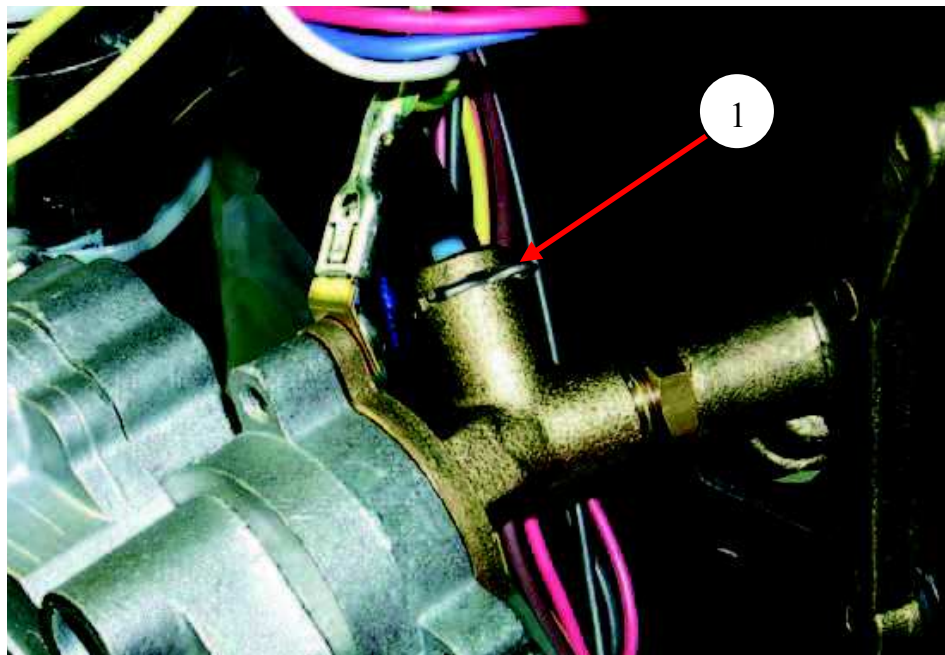

Fig. 34
- d) Remove instantaneous water heater feed line (see Fig. 34 & 35).